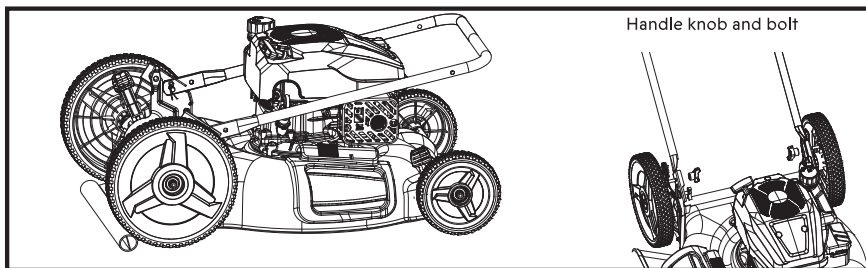

Fig. 1
As shown in Figs. 1 and 2.
3. Secure the lower handle to the deck using the handle knob and bolt (supplied). See Fig. 1.